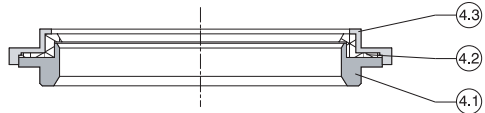

Fig. 5 - Soft seal
5.1.9 Remove the seat (4) and the seat gasket (5). In case of soft seal (figure 5) the seat is compounded of superior seat (4.3), seat ring (4.2) and inferior seat (4.1).
5.2.7 Remove the seat (4) and the seat gasket (5). In case of soft seal (figure 5) the seat is compounded of superior seat (4.3), seat ring (4.2) and inferior seat (4.1) (figure 5).
5.5.3 Install the seat gasket (5) and seat (4) or, for soft seal valve (figure 5), the inferior seat (4.1), seat ring (4.2) and superior seat (4.3).